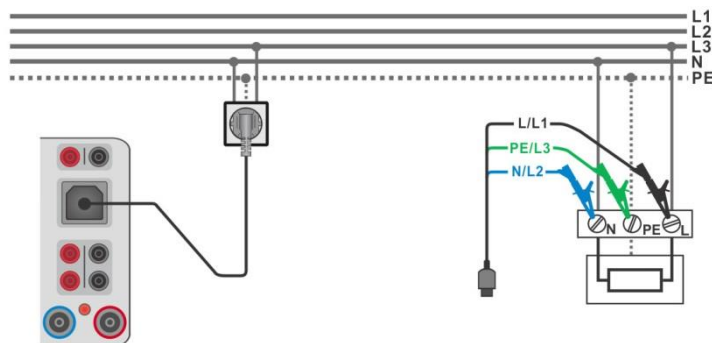

Figure 6.66: Connection of Plug test cable or 3-wire test lead
- › Connect 3-wire test lead or Plug test cable to the object under test, see **Figure 6.66**.